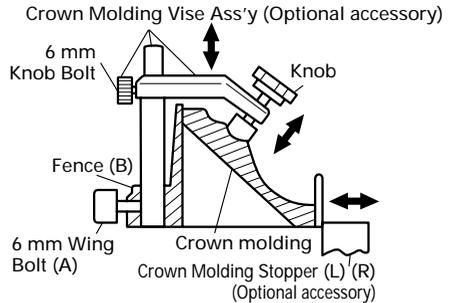

Fig. 24
- (2) The crown molding vise (B) (Optional accessory) can be mounted on either the left fence (Fence (B)) or the right fence (Fence (A)). It can unite with the slope of the crown molding and vise can be pressed down. Then turn the upper knob, as necessary, to securely attach the crown molding in position. To raise or lower the vise assembly, first loosen the 6 mm wing bolt. After adjusting the height, firmly tighten the 6 mm wing bolt; then turn the upper knob, as necessary, to securely attach the crown molding in position (See Fig 24).
Position crown molding with its WALL CONTACT EDGE against the guide fence and its CEILING CONTACT EDGE against the Crown molding Stoppers as shown in Fig. 24. Adjust the Crown molding Stoppers according to the size of the crown molding. Tighten the 6 mm wing bolt to secure the Crown molding Stoppers.